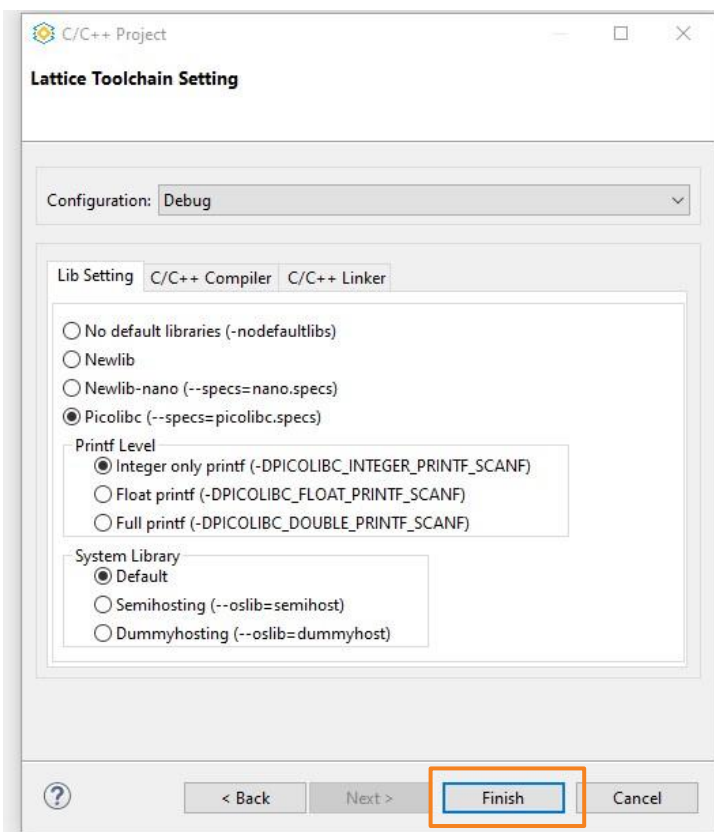

Figure 3.43. Propel SDK – New Project Tool Settings
- Accept the default Toolchain Settings and click the **Finish** button as shown in Figure 3.43.